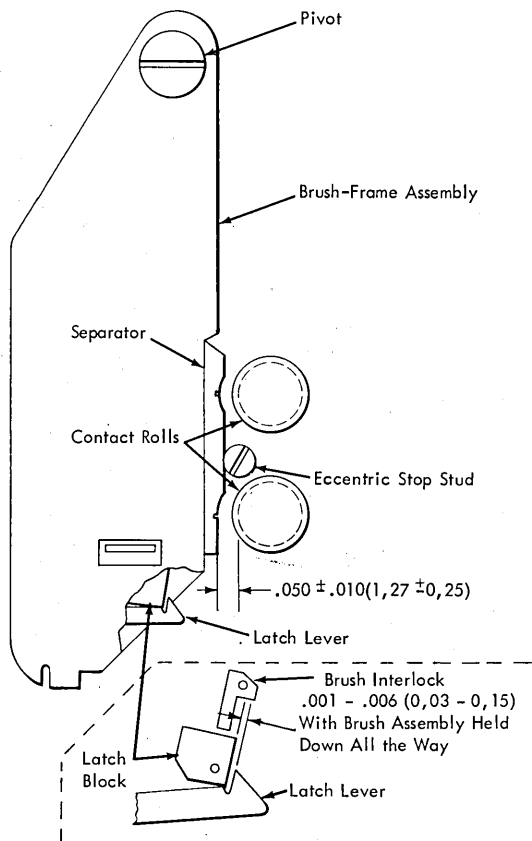

Figure 4-80. Carriage-Tape Brush Assembly Adjustments
6. Adjust the brush-separator eccentric stop stud for $.050 \pm .010$ in. (1, 27 \pm 0, 25 mm) clearance between the brush separator and the contact rolls at the scribed line (Figure 4-80).
7. Adjust the latch block to obtain .001 to .006 in. (0, 03 to 0, 15 mm) clearance between the latch pawl and latch block with the brush assembly fully depressed (Figure 4-80).